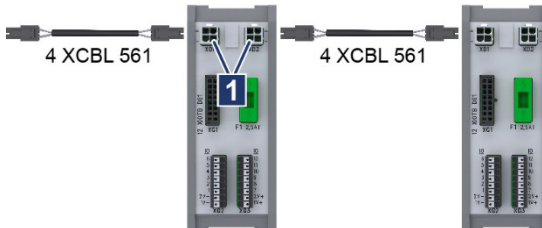

Fig. 6-4: Power supply connected to XIOTB
3. Plug the power supply cable 4 XCBL 531 into terminal *XD1* or *XD2* terminal block XAFTB (→ Fig. 6-4/1). Then continue to route the power supply with the cables 4 XCBL 561 of terminal block XAFTB to terminal blocks XIOTB (→ Fig. 6-4).